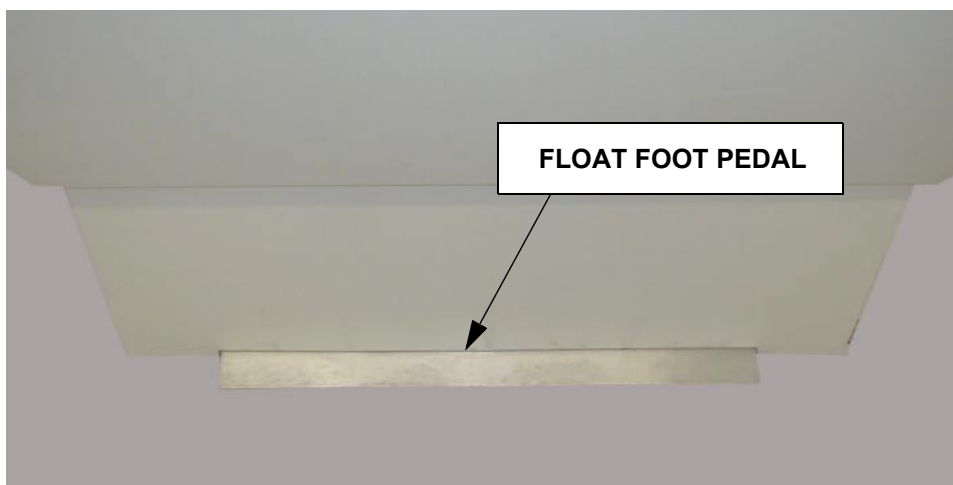

Figure 4. Model QT-740 FLOAT Foot Pedal Control
2. Press the FLOAT foot pedal (see Figures 4 and 5) to enable transverse and/or longitudinal motion of the tabletop. (When the foot pedal is pressed, it releases electromagnets (locks) that prevent transverse and longitudinal tabletop motion.)